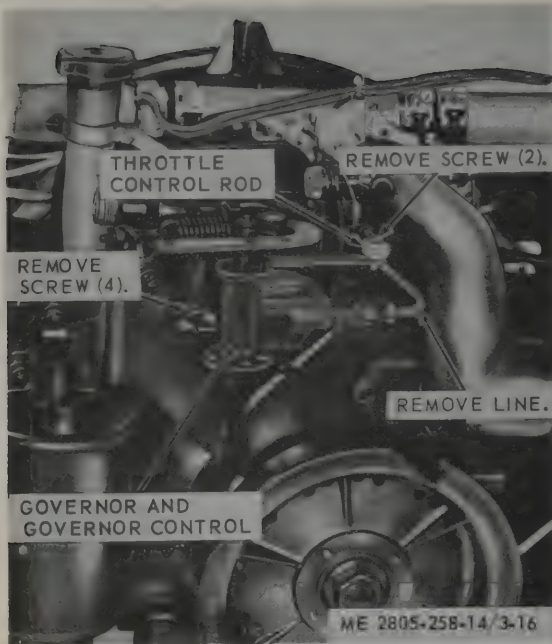

Figure 3-16. Governor, governor control, and throttle control rod, removal and installation.
- (1) Remove top shroud (para 3-17).
- (2) Refer to figure 3-16 and remove governor, governor control, and throttle control rod.
- (1) Refer to figure 3-16 and install governor, governor control, and throttle control rod.
- (2) Install top shroud (para 3-17).